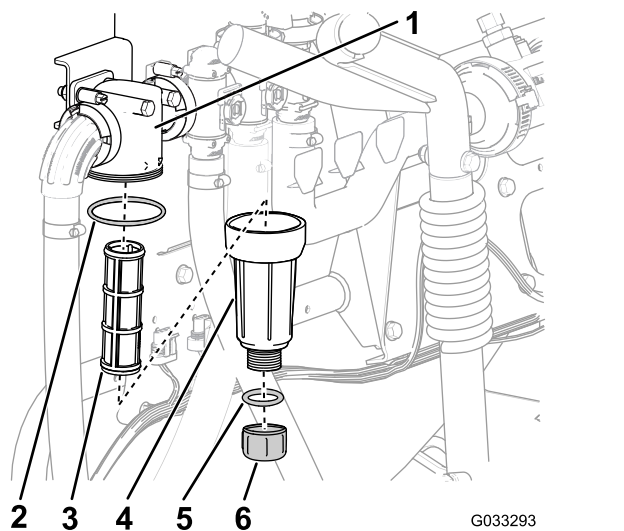

Figure 15
2. Align a drain pan under the pressure filter (Figure 15).
3. Rotate the drain cap counterclockwise and remove it from the bowl of the pressure filter (Figure 15).
4. Rotate the bowl counterclockwise and remove the filter head (Figure 15).
5. Remove the pressure filter element (Figure 15).
inside the filter head) for damage and wear (Figure 15).
8. Install the pressure filter element into the filter head (Figure 15).
9. Install the bowl onto the filter head, and tighten by hand (Figure 15).
10. Assemble the drain cap onto the fitting at the bottom of the bowl, and tighten the cap by hand (Figure 15).